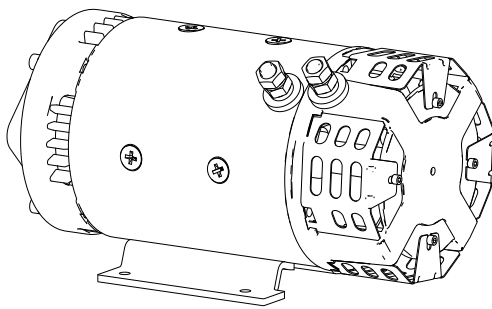

Figure 5-11
2. Result: Replace the slider when it shows wear measuring more than 3 mm (0.12 in) (the measured distance L is less than 65 mm [2.6 in]). See Fig 5-11, page 5-19